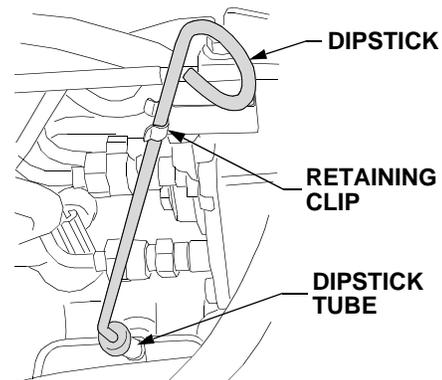
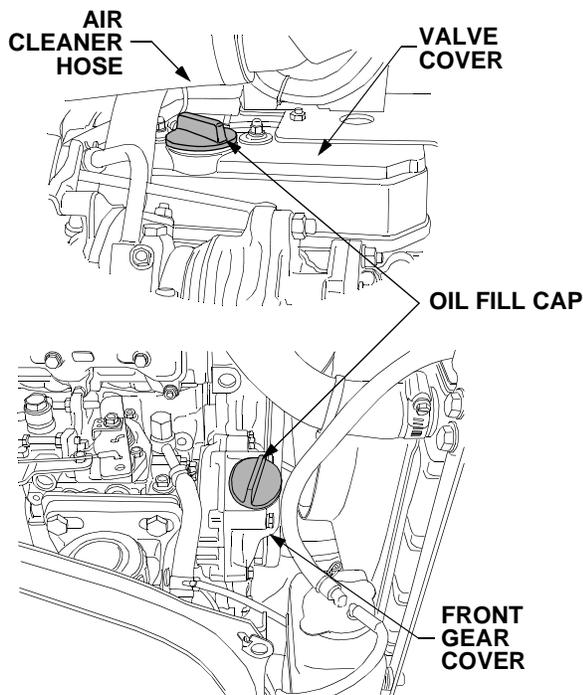

Figure 52
Figure 54
- Check the oil level only while the engine is stopped and the tractor is level. Clean the area around the oil level dipstick to prevent debris from entering the crankcase. See Figure 52.
- Reinsert the dipstick into the dipstick tube and push firmly into the tube. Clip the dipstick handle into the retaining clip. See Figure 52.
- Locate the oil fill cap in the front gear cover (or valve cover). See Figure 54.
- Insert the oil fill cap into the gear cover (or valve cover) and turn clockwise until fully tightened. Reinsert the dipstick and push firmly into the dipstick tube. Clip the dipstick handle into the retaining clip. Refer to Figure 52.
- Remove the dipstick and an oil fill cap from the engine. Refer to Figure 52 and Figure 54.